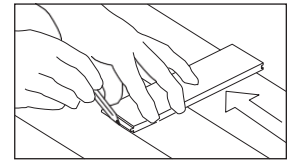

Figure 12
- If the wall is not straight, scribe the first board (Figure 12) as necessary to maintain alignment with the chalk line. Install a sacrificial board (with a straight edge) using the appropriate fasteners for the subfloor. If a board is used for the starter row make certain the groove faces the wall.
- Align the first row with the wall using wedges to maintain a 1/2" (13 mm) expansion in place and to stabilize the product. If the wall is not straight, scribe the first board (Figure 12) as necessary to maintain alignment with the chalk line.